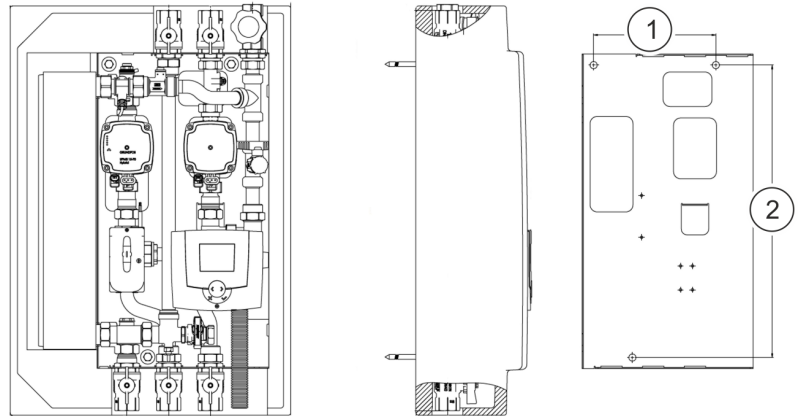

Fig. 20: Gauge for holes
4. → Mark the drill holes (Fig. 20/1 + 2) on the wall.